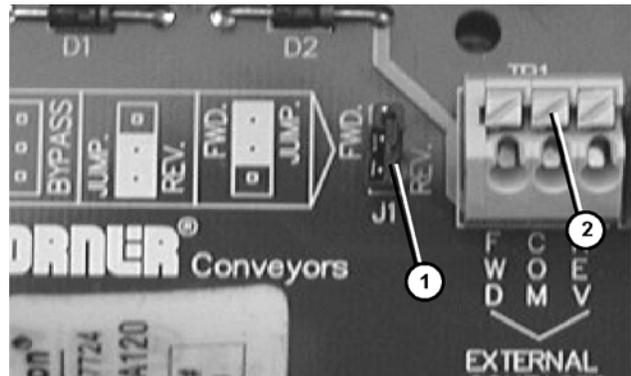

Figure 15
Remove the direction jumper 'J1' (**Figure 15, item 1**) from the pins. This jumper is not required.
Connect remote machine interface wires to the terminals labeled "External Contacts" (**Figure 15, item 2**).